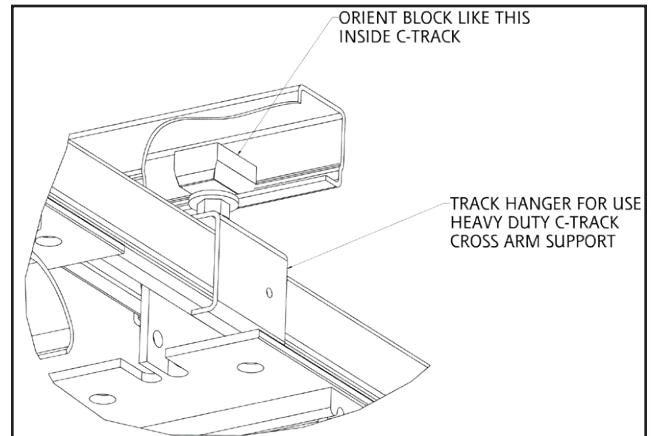

Figure 7-1
2. Bolt the section loosely in place, joining the ends of the channels with splice joints as you progress. See **Figure 7-1**.
3. Align set screws with holes in C-Track and tighten. See **Figure 7-1**.